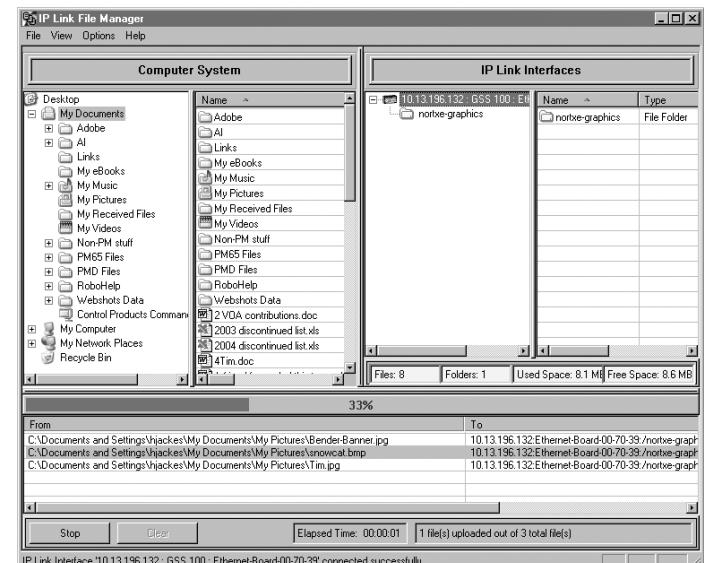

Figure 5-16 — IP Link File Manager program window
4. The IP Link File Manager program window appears (figure 5-16). The window contains two major sections: